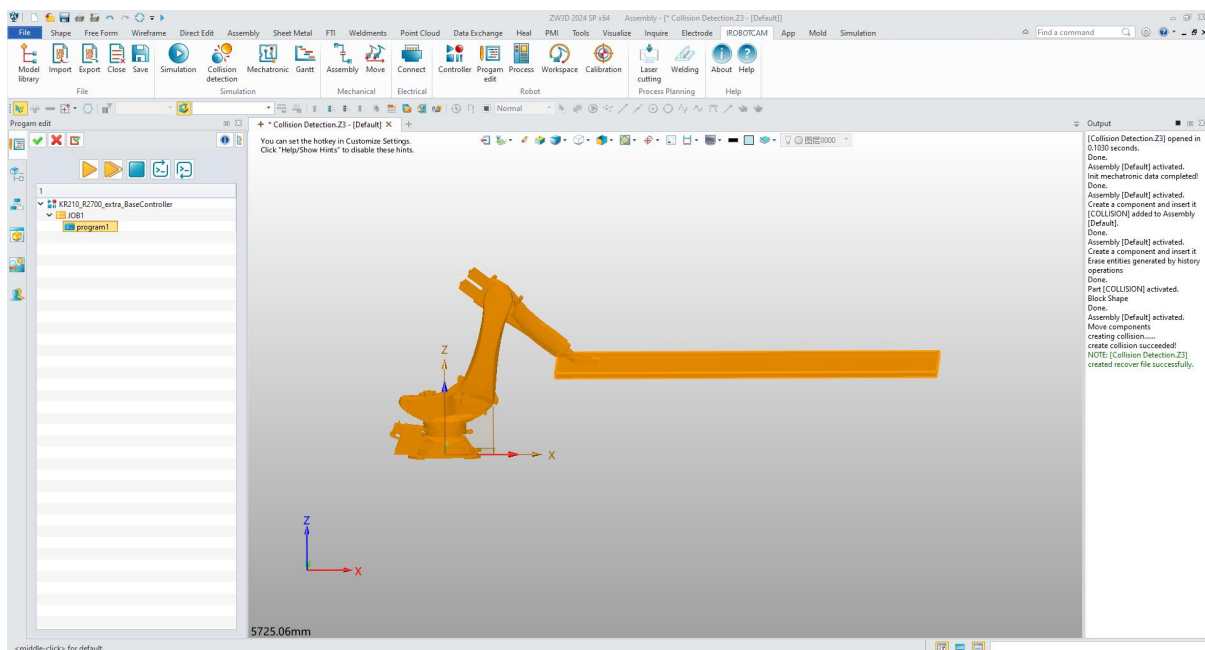

Figure 11-23: Simulation verification
- Once the program is running, you should see a highlighted status indicator, confirming successful collision detection. (Figure 11-23)